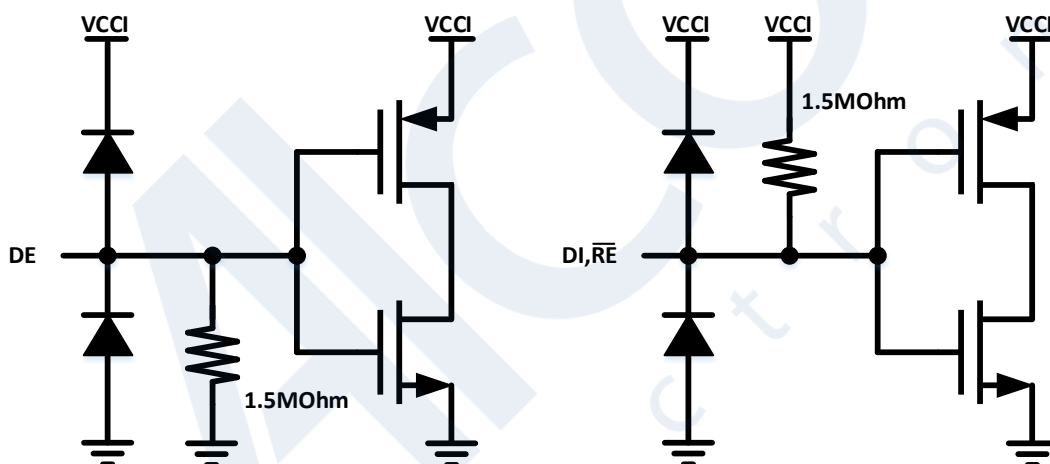

Figure 9-1. Input equivalent circuit
The CA-IS309x devices include three logic inputs on the logic side: receiver enable, driver enable and driver digital input. The driver enable control DE pin has an internal weak pull-down to GND, while the digital input DI and receiver enable pins have an internal pull-up to V_{CC}/V_{CCL} , see Figure 9-1 the input equivalent circuit.
The transmitter converts a single-ended input signal (DI) from the local controller to differential outputs on the bus lines A and B. The truth table for the transmitter is provided in Table 9-2, the driver enable control DE pin has an internal weak pull-down to GNDA, see Figure 9-1 the input equivalent circuit; while the digital input DI pin has an internal pull-up to V_{CC} for CA-IS3092W/CA-IS3098W or V_{CCL} for CA-IS3092VW/CA-IS3098VW. The driver outputs and receiver inputs on the bus side are protected from $\pm 20kV$ electrostatic discharge (ESD) to GNDB, as specified by the Human Body Model (HBM). The driver outputs also feature short-circuit protection and thermal shutdown.